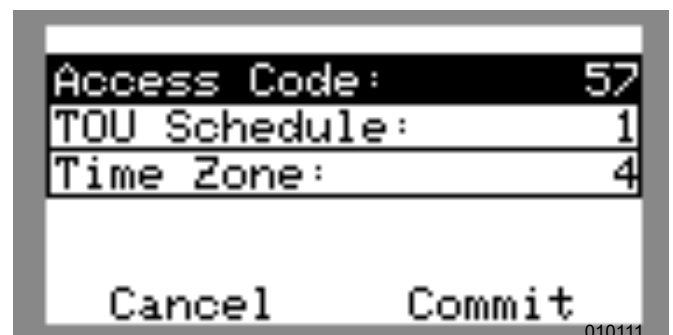

Figure 6-12. Configuring TOU Schedule (3 of 4)
- See Figure 6-12. Use the up and down arrows to highlight Access Code and press the center button to select.